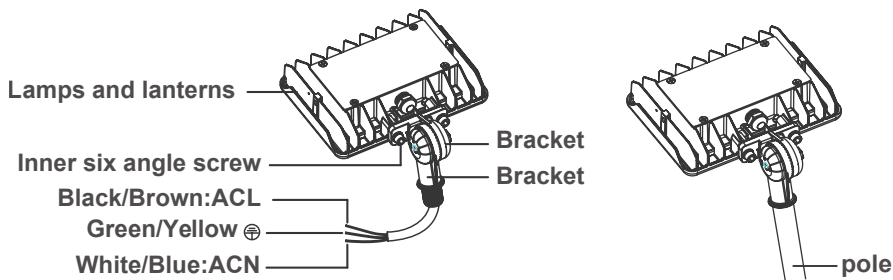

Fig. 1.4
2. Complete wire connections in pole or junction box (Fig 1.4).